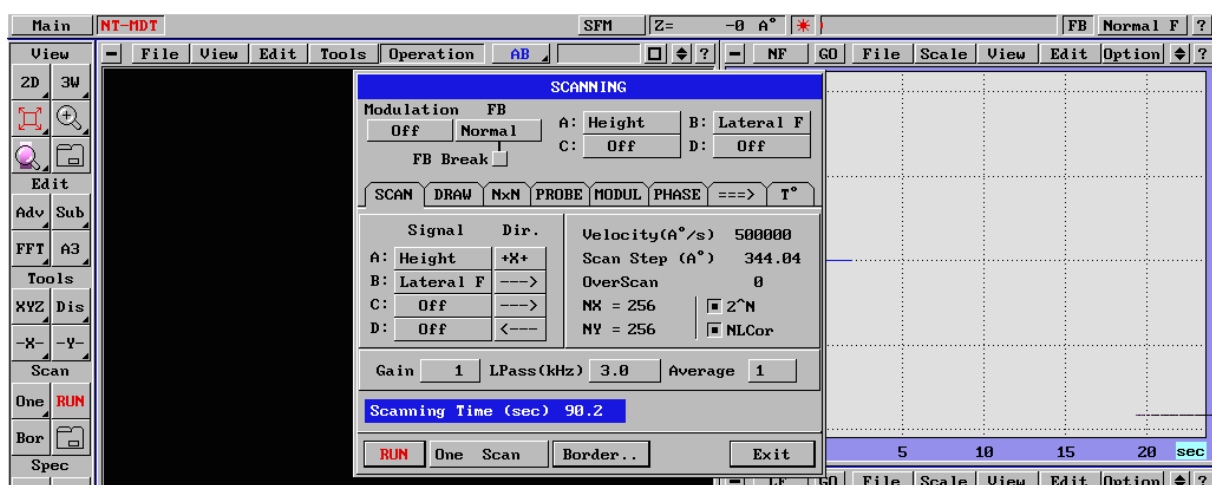

Fig. 172
- Velocity - 500000 A/ñâ€ (Fig. 172)
- NX xNY - 256 ò 2565 (Fig. 172)
- Step (A) - max6 (Fig. 172)
- NL Corr - on (Fig. 172)
- Scan dir - +X+ (Fig. 172)
- Gain = 1 (Fig. 172)
- Lpass(kHz)=3 (Fig. 172)
- Average = 1 (Fig. 172)